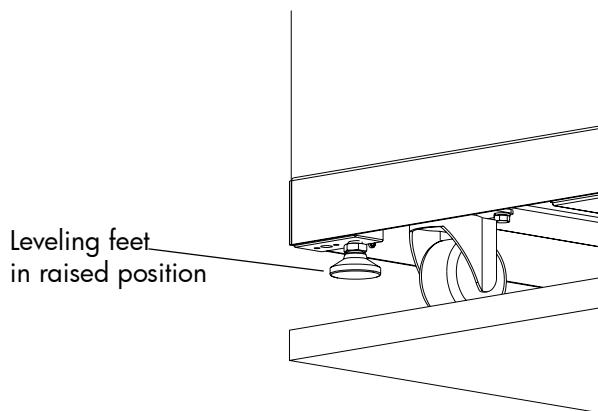

Figure 11: Raising the leveling feet
11. Raise the leveling feet securing the library to the pallet (see Figure 11).